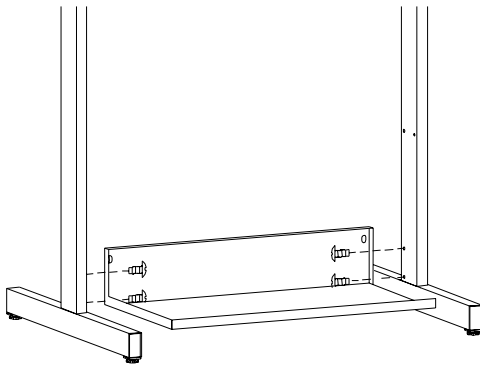
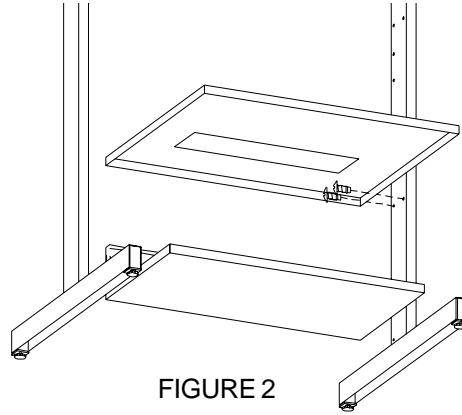

FIGURE 1
FIGURE 2
Stand pedestals up facing each other so that the holes near the edge face the back. Starting at the bottom attach the paper feed shelf with screws (BB) 4 per shelf (making sure shelf faces front) as shown in **Figure 1**. Next attach the printer shelf (w/cut out) using the same screws (BB) as shown in **Figure 2**. Continue this procedure by alternating the shelves as shown in **Figure 3**.